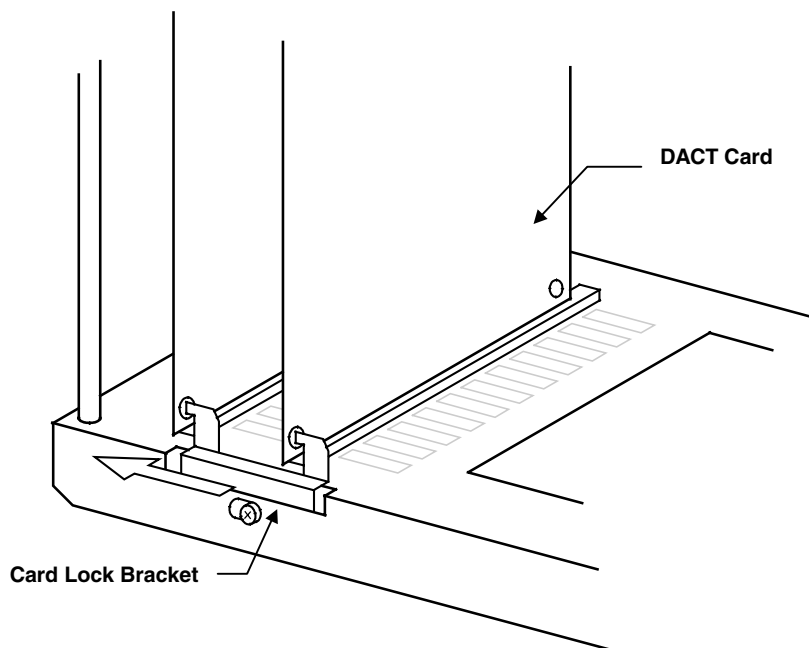

Figure 7. Card Lock Bracket
5. Slide the card lock bracket into the bottom hole in the option card. Secure the bottom of the option card by tightening the card lock bracket screw (see Figure 7).